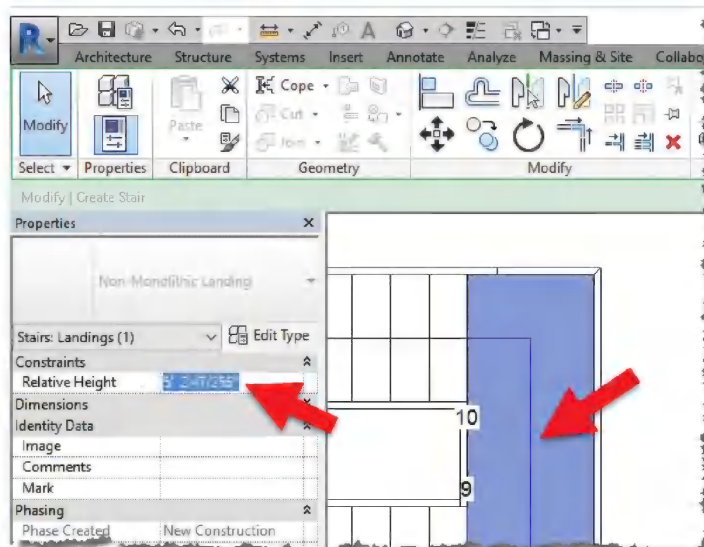

FIGURE 5-3.19 Height listed for selected landing
- While in edit mode, select the landing (Fig. 5-3.19)